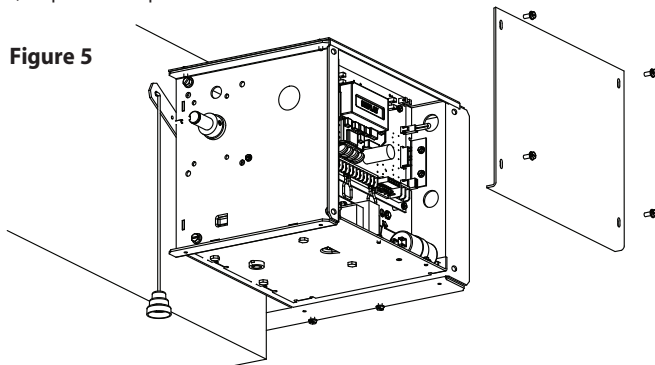

Figure 5
- 1) Remove four (4) self-tapping screws from front panel of CDX® enclosure and remove front panel to expose control circuits. **FIG. 5.**